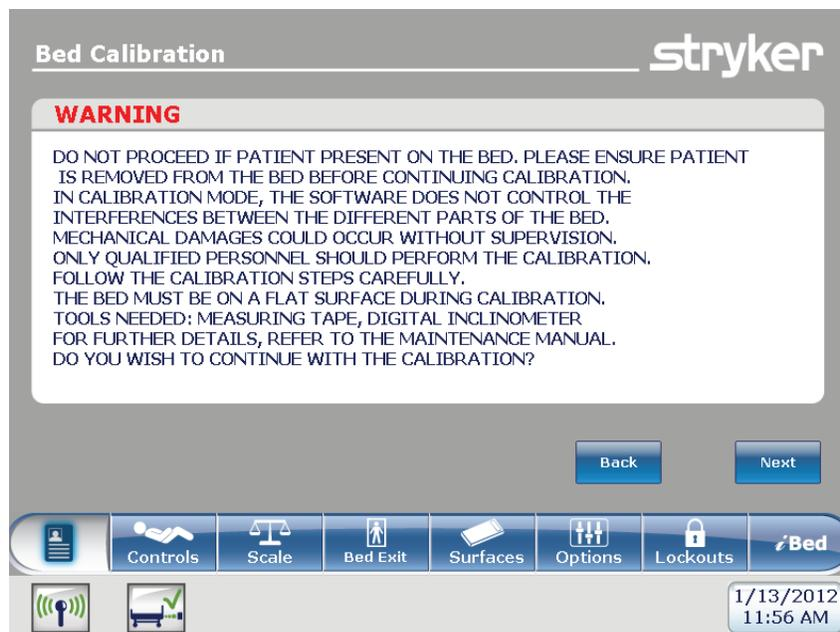

Figure 5 – Bed Calibration - Warning
4. After you press the **Bed Calibration** button the bed calibration warning screen appears (Figure 5).